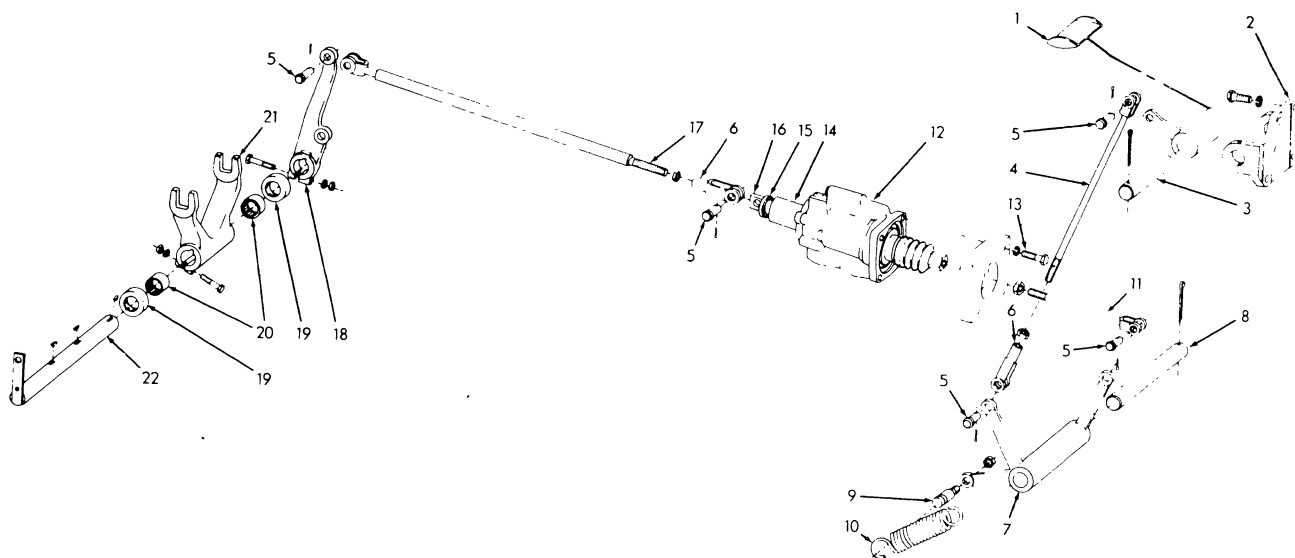

Fig. 9 Engine Clutch Booster
1. Remove rear center floor plate to gain access to booster (it is possible to remove booster from bottom); refer to Fig. 9.
3. Remove yoke pins (5) from front ends of booster actuating rod (11) and clutch operating rod (17).
4. Remove capscrews mounting booster to frame and remove booster; turn actuating rod (11) out of booster and re-connect to clutch bellcrank (7).